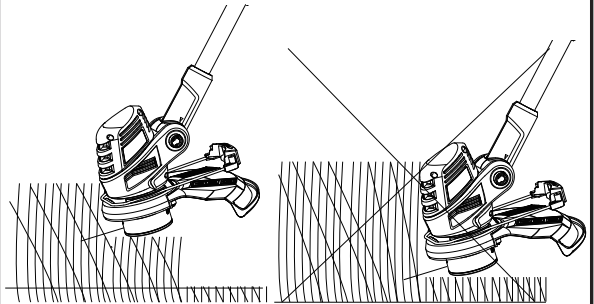

Fig. 19
8. Cut in layers if the grass is tall, starting with the top layers and then the bottom (Fig. 19).